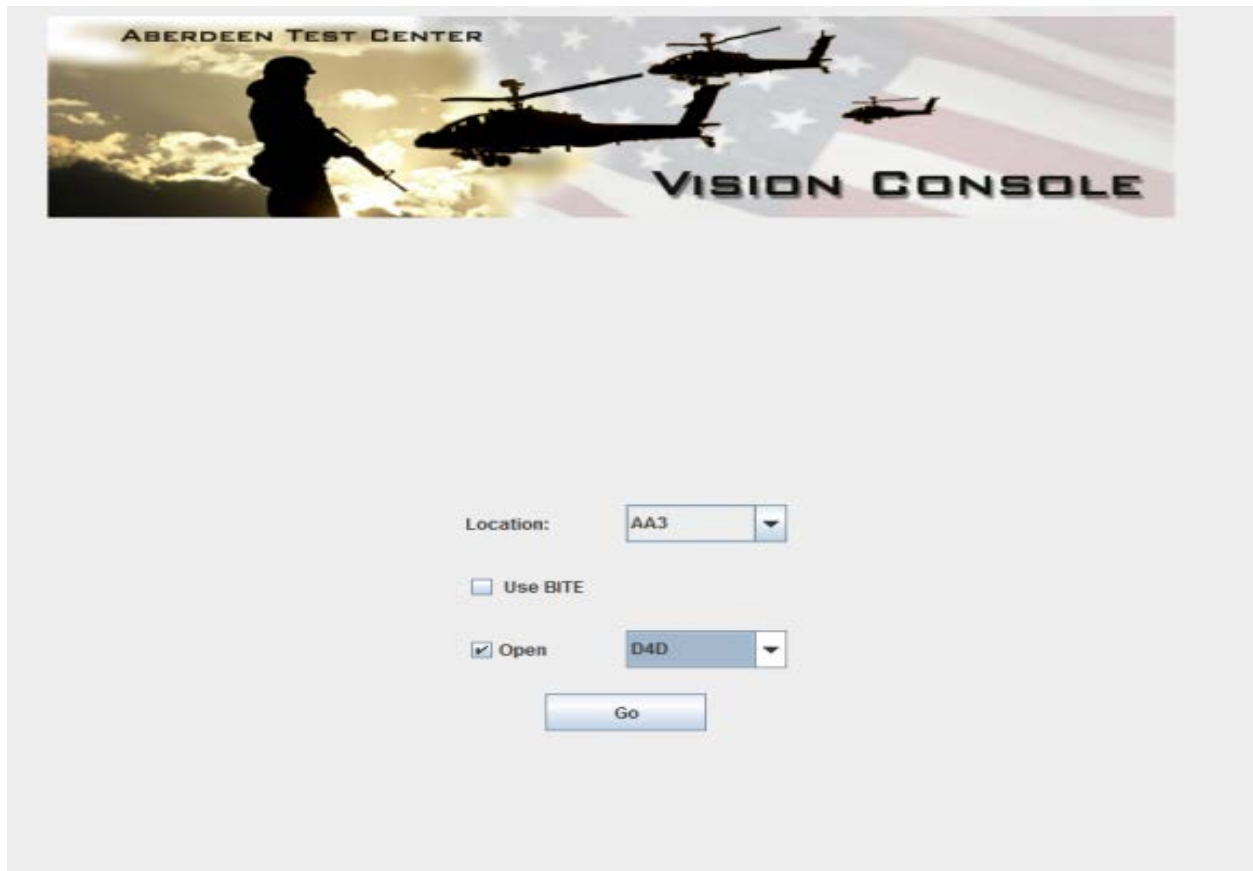
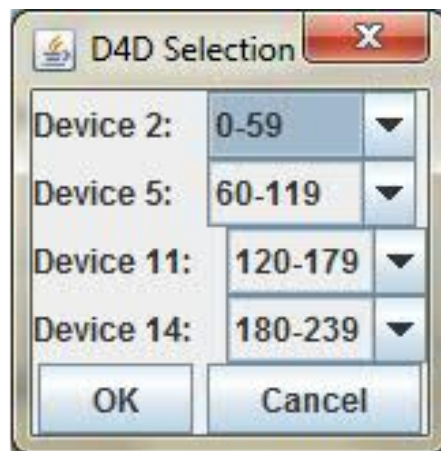

Figure 7. Console home screen.
Figure 8. D4D channel assignment.
a. The VHSD and the D4D use the same software for control and acquisition. Located on the desktop will be the Ballistics Test Site (BTSX) Icon. If this is not located on the desktop, follow the steps in Section 3.2 to download and install the BTSX application. Click on this icon to open the acquisition console. There will be a screen that appears, select the test range where the test is being conducted; make sure the box next to "Use BITE" is unchecked and make sure D4D is selected in the drop down box, then click go (Figure 7). When multiple D4D's are being used, the user will be prompted to assign the channel number range to the appropriate D4D (Figure 8).